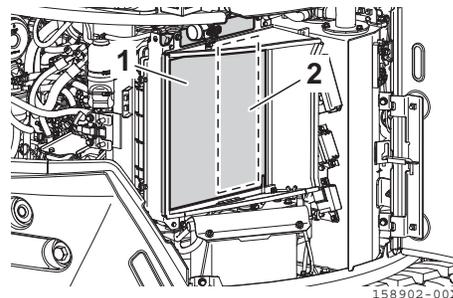

Fig. 8-49
2. Clean off any mud, dirt or leaves clogged in the radiator fins (Fig. 8-49, 1) and the oil cooler fins (Fig. 8-49, 2) by blowing compressed air or by flushing with steam.
3. Check whether the fins (**Fig. 8-49, 1, 2**) of the radiator and oil cooler have fallen over and whether dust has been removed cleanly.